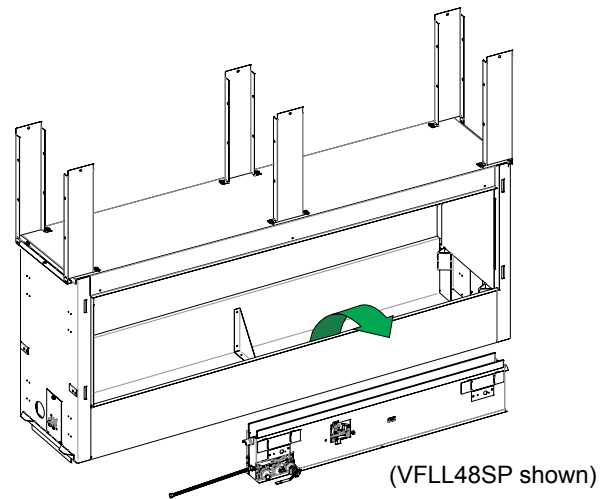

Figure 10
1. To access and install the junction box and wiring, begin by removing the burner cover. Lift it straight up off of the burner and set aside. **See Figure 10.** For VFLL48SP90 Units: Remove the heat shield and disconnect the wire to the switch on the heat shield.
- 10b. For VF(L,Z)48SP90 fireplaces, set receiver for "remote". See page 30. Set switch on heat shield to standing pilot or intermediate pilot. **See Figure 61**. Verify that the heat shield is back in place. **See Figure 10**.
11. Replace burner cover. **See Figure 10**.